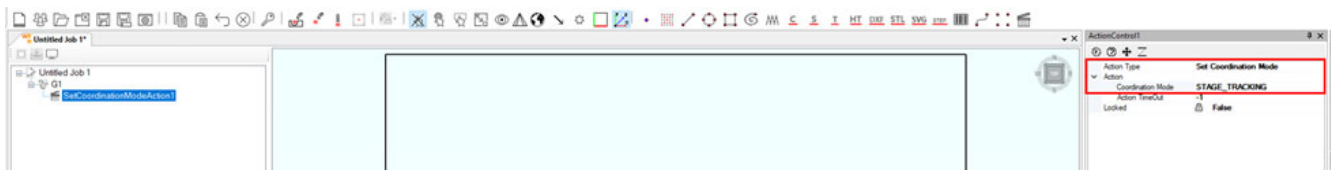

Figure 318: Set Coordination Mode Action Control
3. Configure the Action Control to be of "Set Coordination Mode" type. Coordination Mode should be set to "STAGE_TRACKING." See Figure 318 (below).